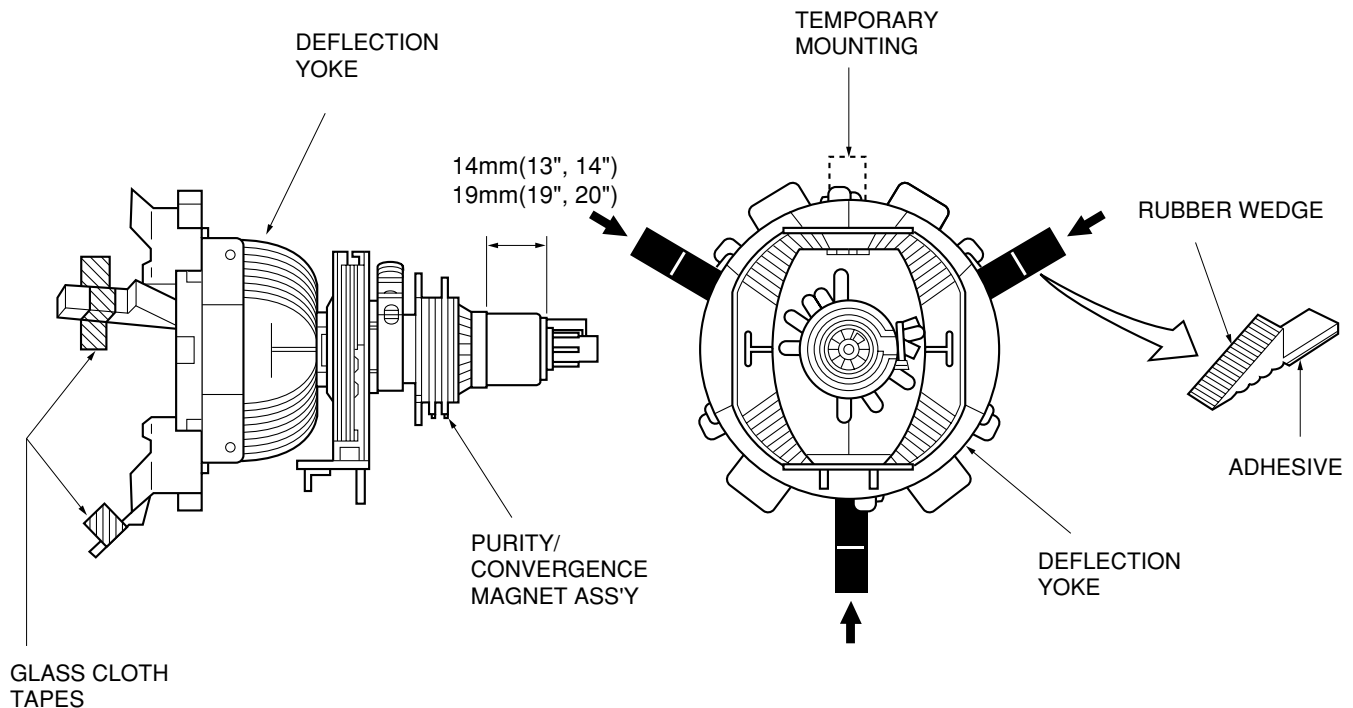

Figure 1.
Note: The PURITY/CONVERGENCE MAGNET assembly and rubber wedges need mechanical positioning. Refer to figure 1.
2. Temporarily put a wedge as shown in figure 1. (Do not remove cover paper on adhesive part of the wedge.)